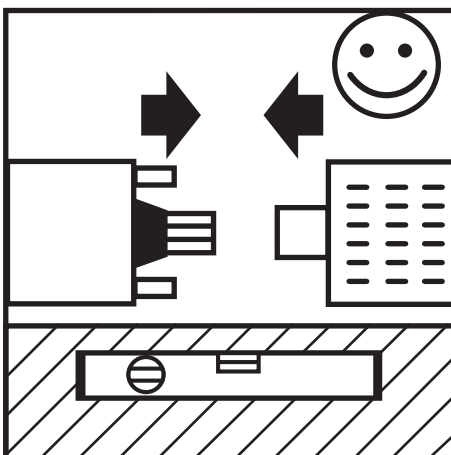

Fig.: 11
1. Place motor and pump horizontally and level (fig. 11).